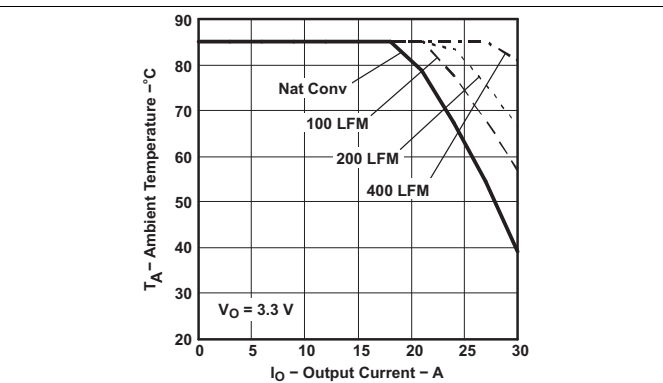
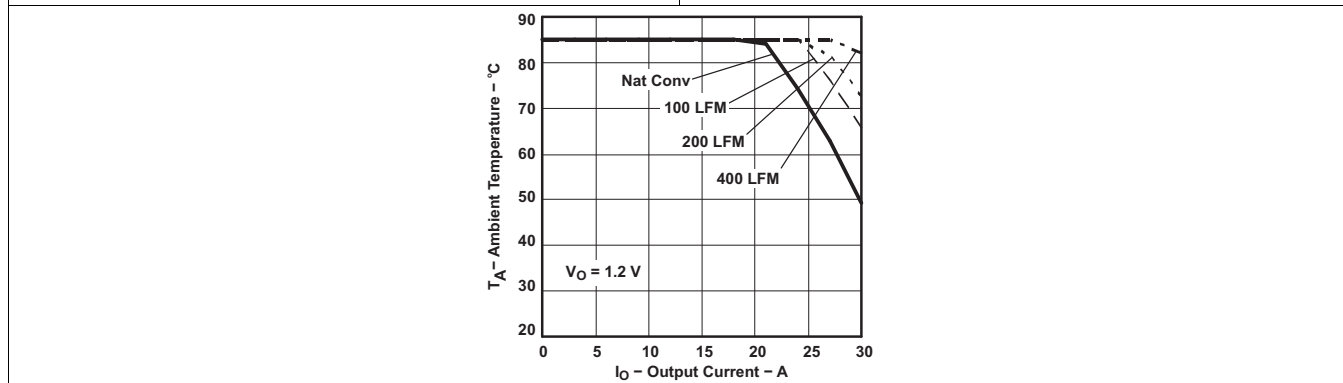

Figure 9. Ambient Temperature vs. Output Current
Figure 10. Ambient Temperature vs. Output Current
- (14) The temperature derating curves represent the conditions at which internal components are at or below the manufacturer's maximum operating temperatures. Derating limits apply to modules soldered directly to a 100 mm x 100 mm double-sided PCB with 2 oz. copper. Applies to Figure 9 and Figure 10.